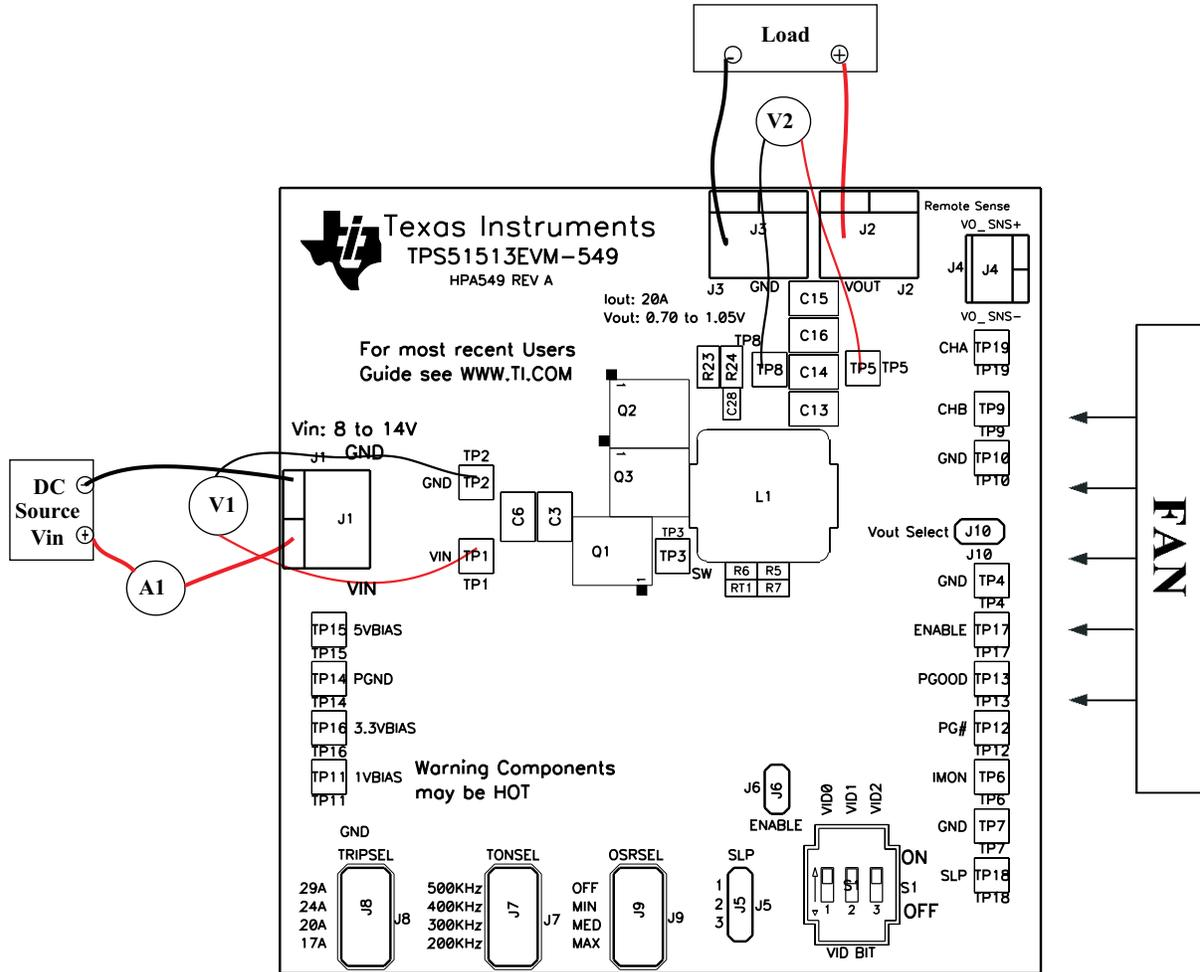

Figure 4-2. TPS51513EVM-549 Recommended Test Setup
Voltage Source: The input voltage source, V_{IN} , must be a 0-V to 14-V variable DC source capable of supplying 10 A_{DC}. Connect V_{IN} to J1 as shown in Figure 4-2.
Multimeters: A 0-V to 14-V voltmeter (V1) must be used to measure V_{IN} at TP1 (VIN) and TP2 (GND). A 0-V to 5-V voltmeter (V2) is necessary for V_{OUT} measurement at TP5 (VOUT) and TP8 (GND). A 0-A to 10-A current meter (A1) as shown in Figure 4-2 is used for input current measurements.
Figure 4-2 is the recommended test setup to evaluate the TPS51513EVM-549. Working at an ESD workstation, ensure that any wrist straps, bootstraps, or mats are connected, referencing the user to earth ground before handling the EVM.
1. Prior to connecting the dc input source, V_{IN} , it is advisable to limit the source current from V_{IN} to 10 A maximum. Ensure that V_{IN} is initially set to 0 V as shown in Figure 4-2.
Place a fan as shown in Figure 4-2, and turn it on, ensuring that air is flowing across the EVM.